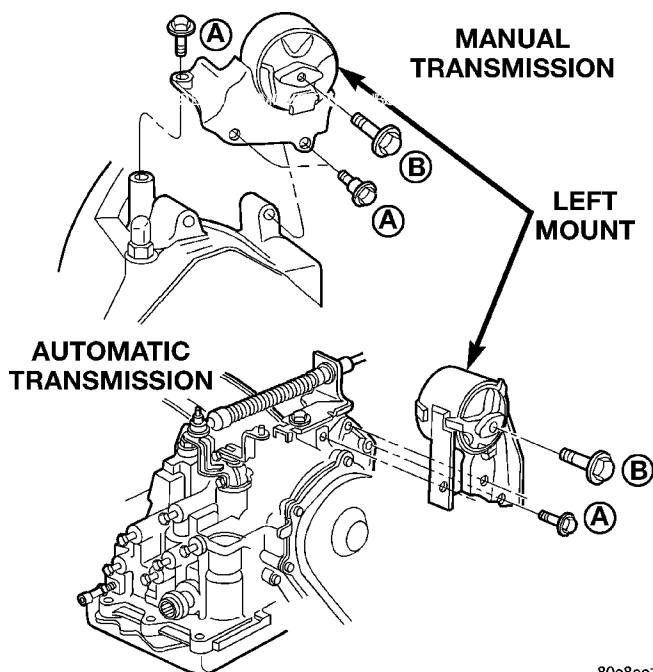

Fig. 14 Engine Mounting—Left
- (1) Raise vehicle on hoist and remove left front wheel.
- (2) Remove the Power Distribution Center (PDC) on manual transaxle model, from battery tray mount and lay aside.
- (3) Support the transmission with a transmission jack.
- (4) Remove the thru-bolt access hole cover. Remove the insulator thru-bolt from the mount (Fig. 14).
- (5) Remove the transmission mount fasteners and remove mount.
- (6) Reverse removal procedure for installation. Tighten fasteners in this order (Fig. 14):